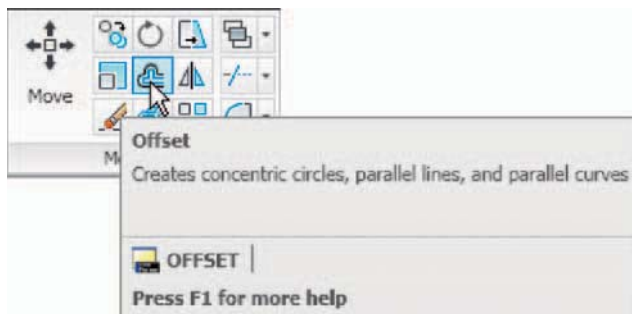
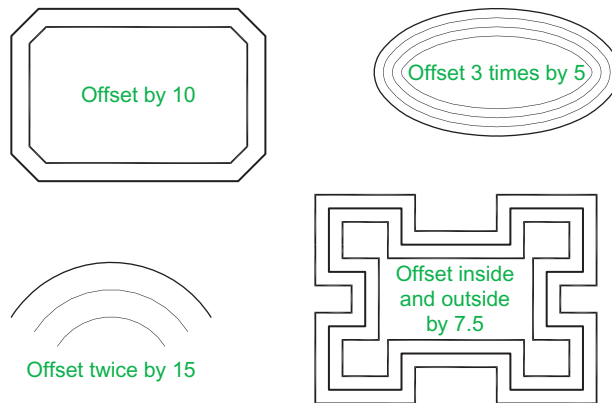

Fig. 5.12 The **Offset** tool from the **Home/Modify** panel
Fig. 5.14 Examples – Offset
Examples – Offset (Fig. 5.14)
2. Call the **Offset** tool – *left-click* on its tool icon in the **Home/Modify** panel (Fig. 5.12), *pick* the tool from the **Modify** toolbar, *pick* the tool name in the **Modify** drop-down menu, or *enter o* or *offset* at the command line. The command line shows:
- Repeat for drawings 2, 3 and 4 in Fig. 5.12 as shown in Fig. 5.14.